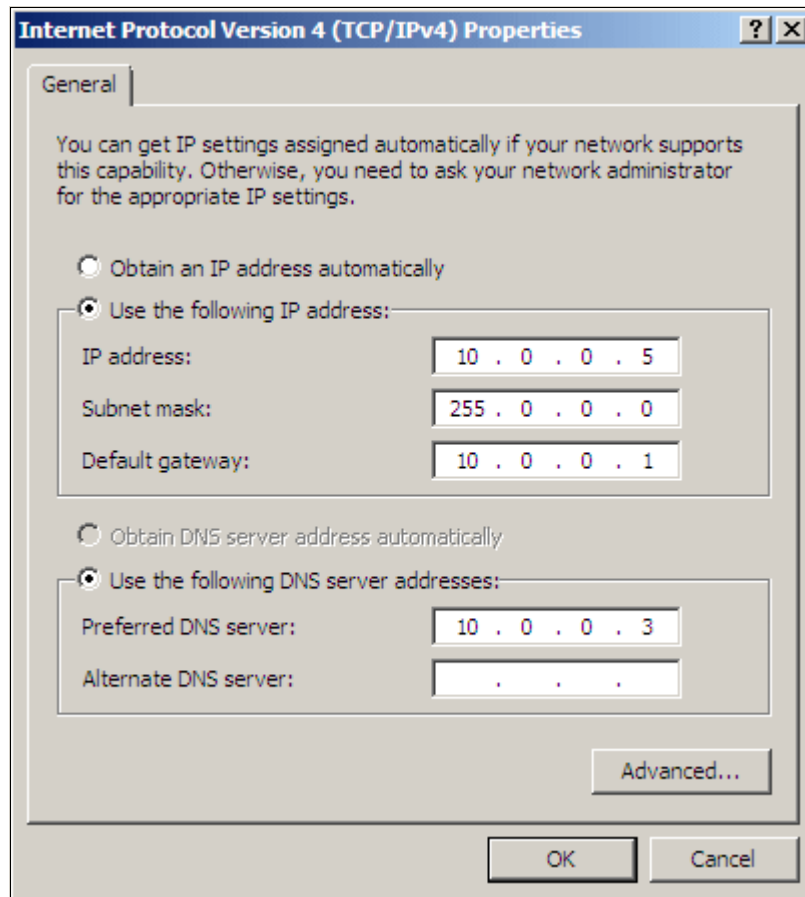

Figure 6-6 Assigning IP address
12. Enter the assigned static IP address for the Database Server in the “Internet Protocol Version 4 (TCP/IPv4) Properties” panel (Figure 6-6). This will allow us to access the internal Windows Essential Business Server network. Click **OK**. If asked to restart, do so before continuing.